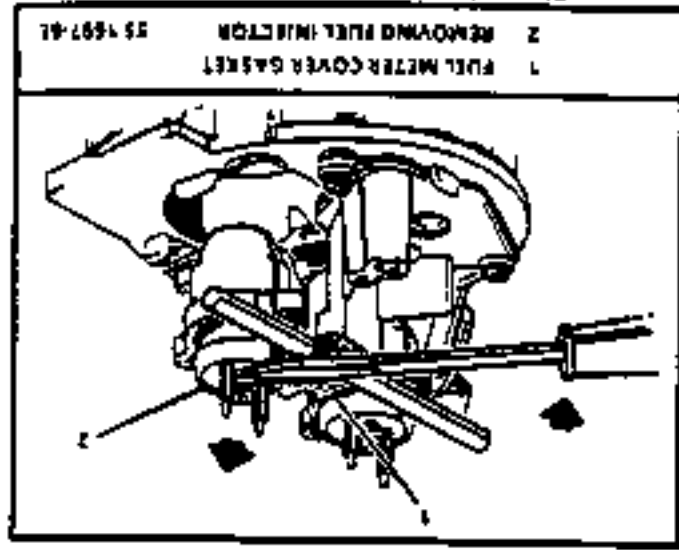

Figure 21 - Removing Fuel Injector
3. With fuel meter cover gasket in place to prevent damage to casting, use a screwdriver and fulcrum to carefully lift out each injector (Figure 21).